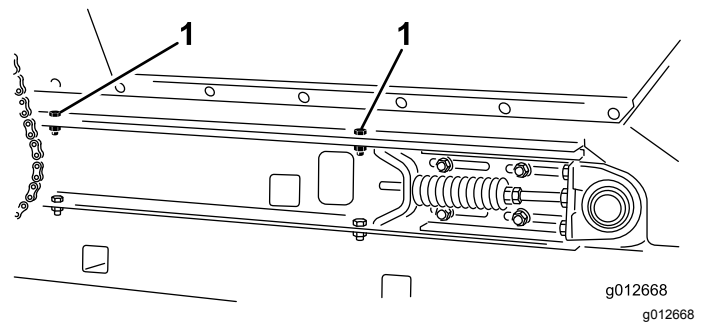

Figure 31
4. At each side of machine, secure the hopper to slider-frame rails (Figure 31) with the 2 capscrews, 2 washers, and 2 locknuts that you removed in Disassembling the Slider Bed \(page 24\).